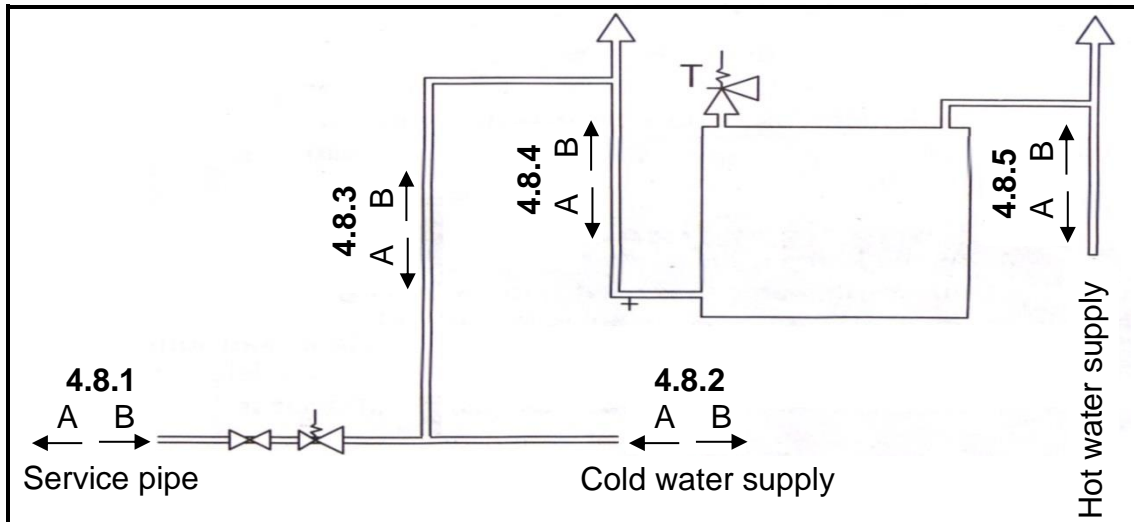

FIGURE 4.8
- 4.8 Indicate the water flow direction of the water in the pipes 4.8.1 to 4.8.5 of the hot water system in FIGURE 4.8.